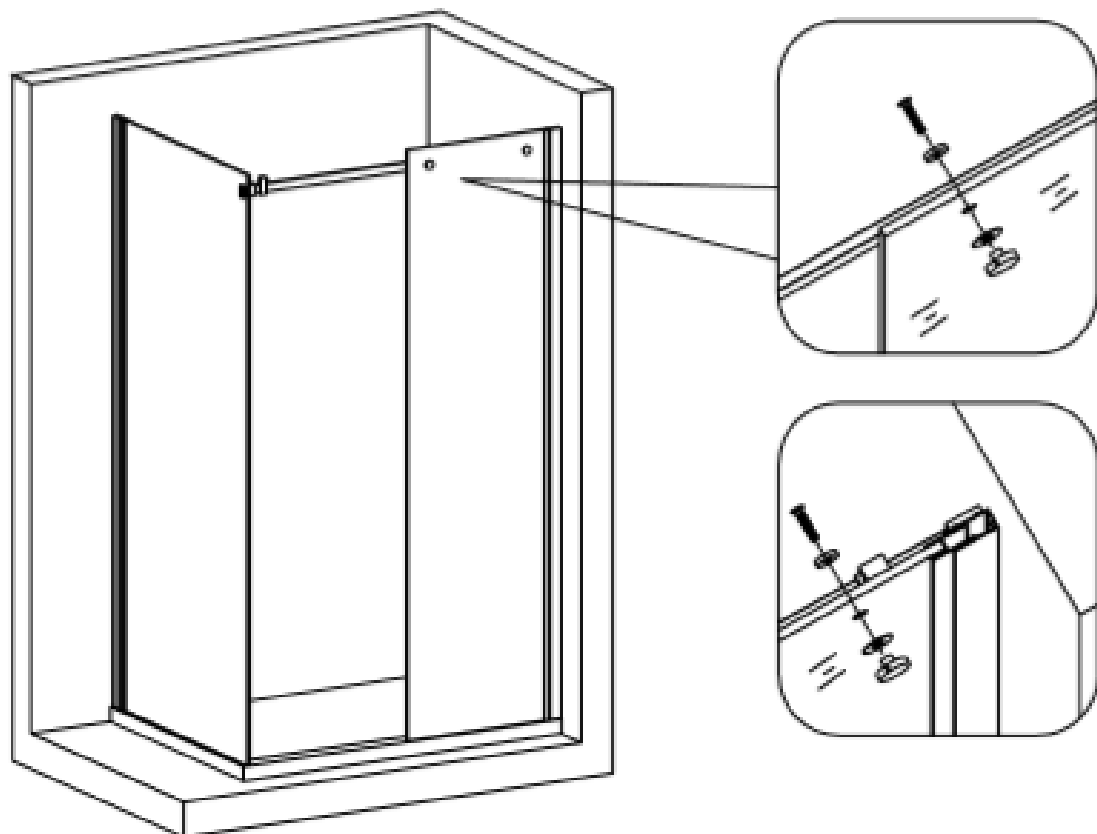

Fig 9
8. Install the **glass holder (12)** on the **fixed glass (17)**. (Fig 9)